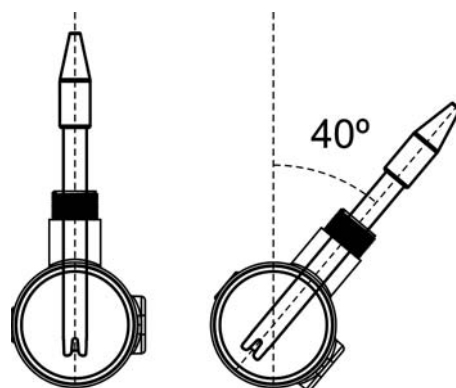

Fig. 13
4. **Always install the pH / ORP sensors vertically or with a maximum inclination of 40° (Fig. 13).**